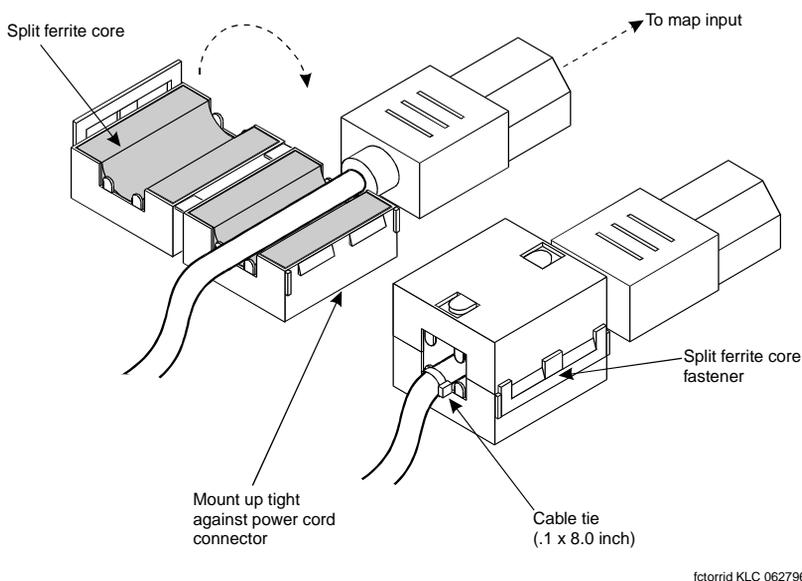

Figure 7-3. Example Ferrite (Type B) Installation
2. Place the cord or cable in the groove inside the ferrite (Figure 7-3).